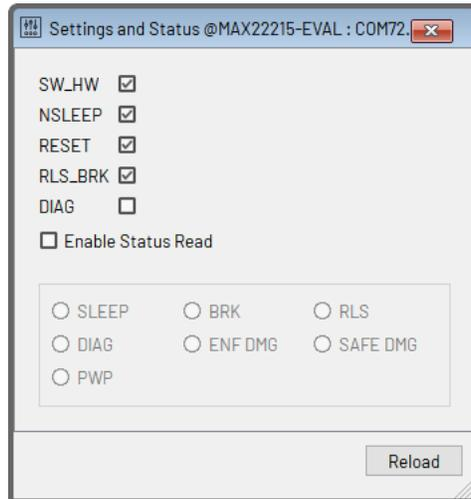

Figure 2. Settings and Status Window for the MAX22215
8. **Settings and Status MAX22215 settings** (Figure 2): Upon initial power-up, the MAX22215 indicates a fault condition, which is signaled by a red LED on the board. To enable normal operation, first clear the fault by setting the reset bit. Next, activate the device by setting the NSLEEP bit. Set the SW\_HW bit to enable communication. Once these steps are completed, the MAX22215 is ready for use. To verify if it ready for use, set the RLS\_BRK bit, which changes the state of the solenoid or electromechanical brake connected to the output connector. To continuously read the status of the IC, check the **Enable Status Read** box.